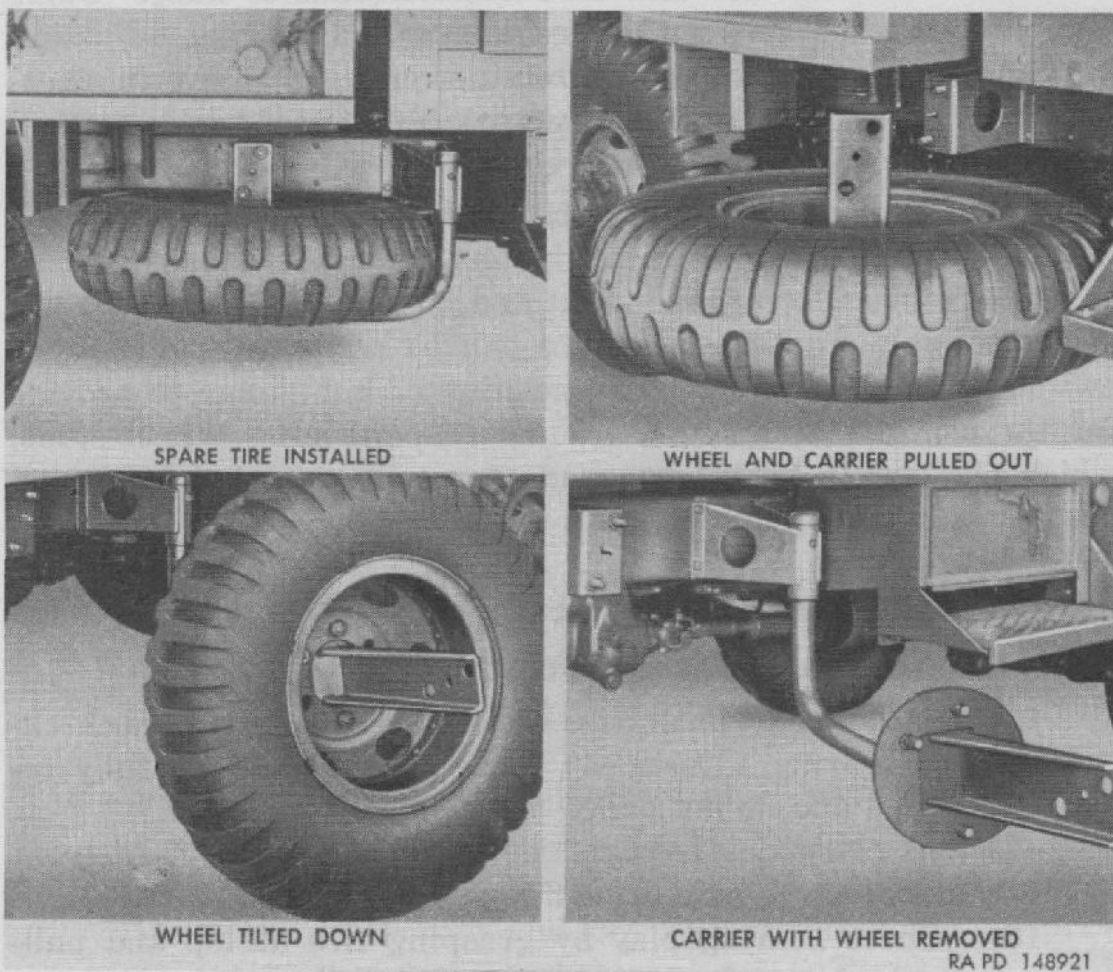

Figure 143. Spare wheel and tire carrier.
a. GENERAL. Spare wheel and tire are mounted on carrier on frame right side rail at rear of cab (fig. 143). Carrier swings outward and wheel tilts down for easy removal and installation.
b. SPARE WHEEL AND TIRE REMOVAL FROM CARRIER (fig. 143).
- (1) Remove two nuts attaching spare-wheel support bracket to frame bracket. Swing carrier and wheel out from under vehicle body and tip wheel and tire to upright position.
- (2) Remove four nuts attaching wheel to support bracket; then remove wheel and tire from support bracket.
c. SPARE WHEEL AND TIRE INSTALLATION ON CARRIER (fig. 143).
- (1) Position wheel and tire on support bracket and attach with four nuts. Tighten nuts firmly.
- (2) Tip wheel and tire to horizontal position and swing in under vehicle body, with support bracket in place against frame bracket. Install nuts on two attaching studs and tighten firmly.